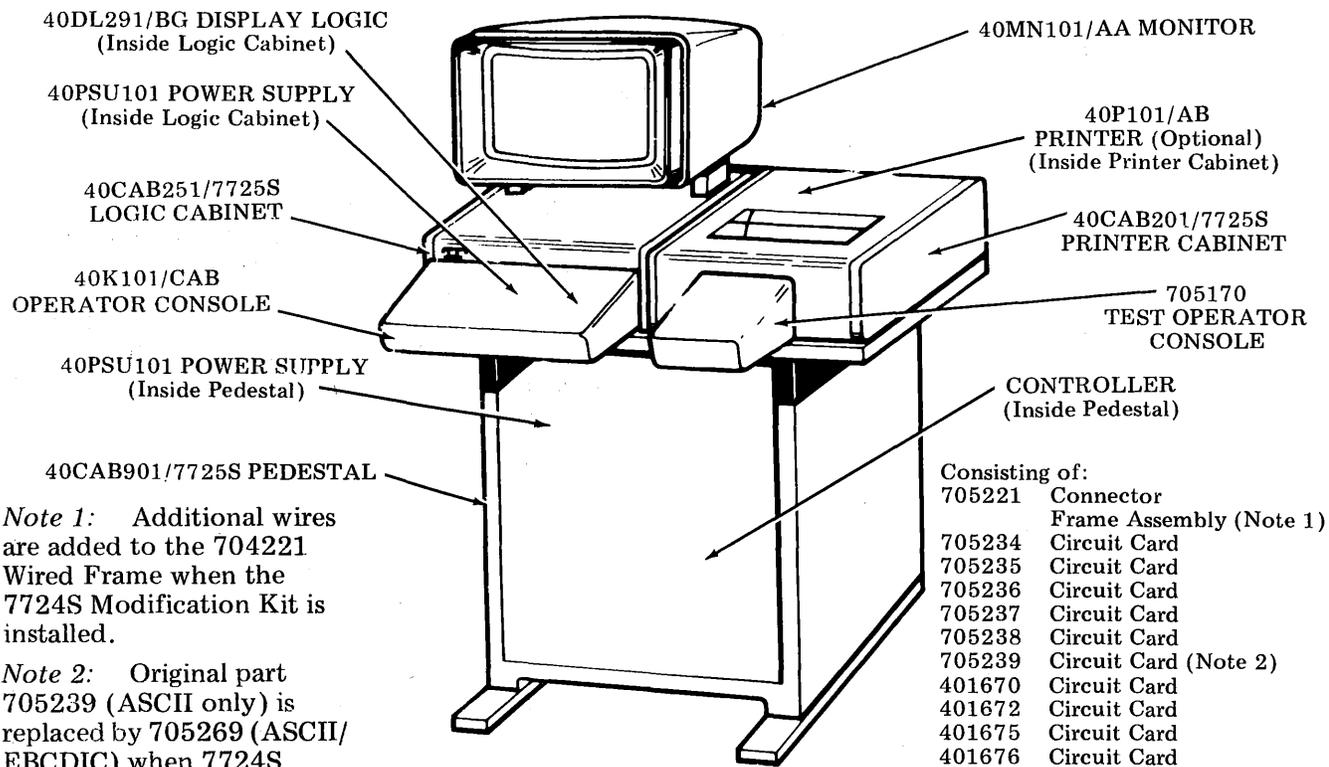

Fig. 1 · DATASPEED Test Set
1.01 This section covers the installation and maintenance of the DATASPEED Test Set TSM 7725S (Fig. 1). The test set is designed for use in Serving Test Centers and Data Test Centers for testing various terminals used in switched network or private line services.
2.01 The DATASPEED Test Set TSM 7725S is made up of those major components listed below and illustrated in Fig. 1, 2, 3 and 4.
3.01 Refer to FIMP 579-505-350, Part 8 for Routine Maintenance and Part 4, Troubleshooting for the standard DATASPEED 40 components of the test set, ie, printer, keyboard and monitor. Refer to Fig. 1, 2, 3 and 8 of this section for parts location.
(Fig. 1 and 8)
(Fig. 1 and 2)
705234 Circuit Card (Fig. 1 and 2)
705235 Circuit Card (Fig. 1 and 2)